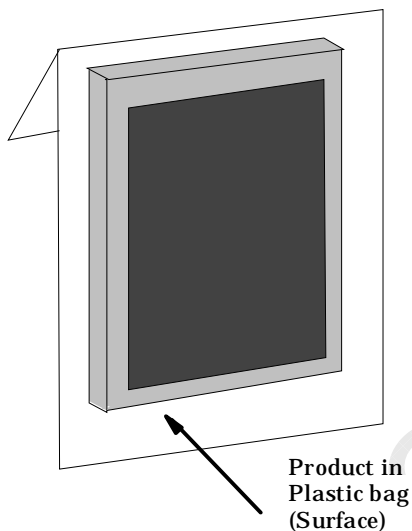

Fig.6
- (1) Each of LCD module is packed in plastic bag. (Fig.6)